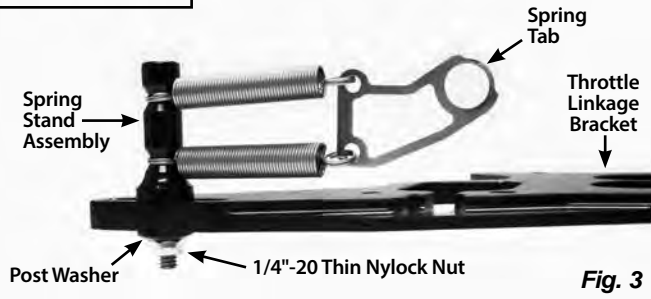
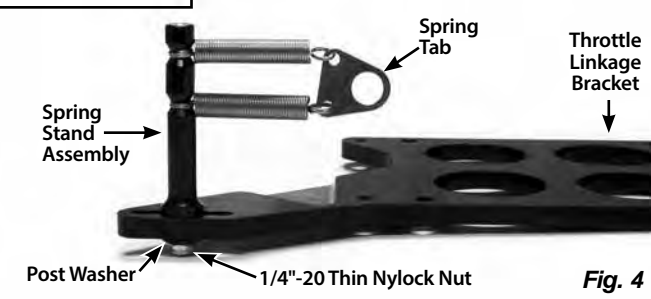

Fig. 3
Fig. 4
Step 1: Remove the 1/4"-20 thin nylock nut and the post washer from the spring stand assembly. Install the spring stand with the springs and spring tab onto the top side of the throttle linkage bracket, into the slot at the front left corner. Install the post washer (beveled edge out) and 1/4"-20 thin nylock nut on the bottom. **Fig. 3 and Fig. 4**